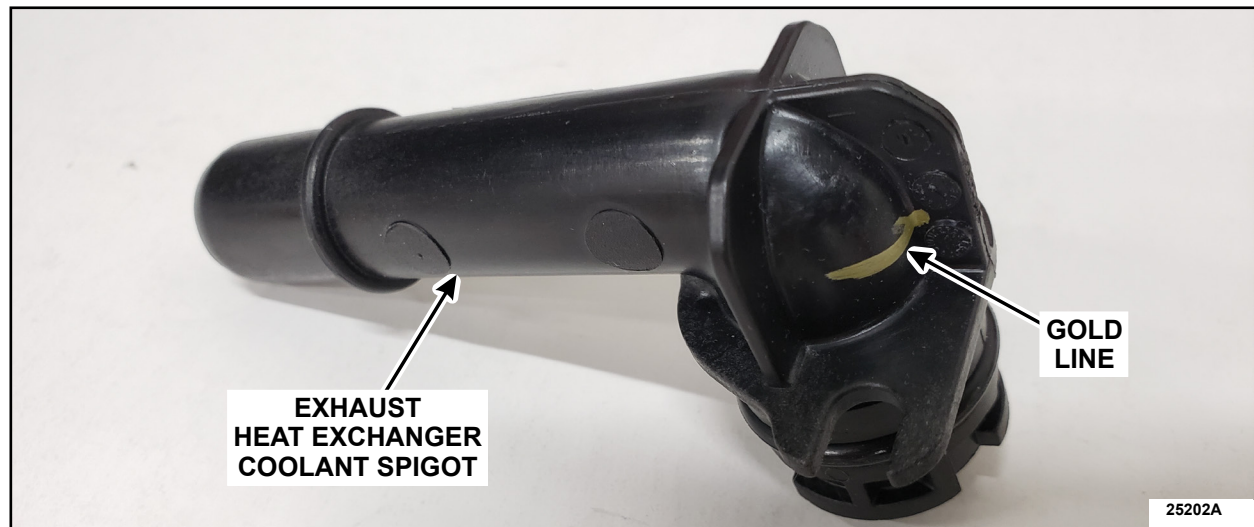

FIGURE 1
2. Visually inspect the *new* exhaust heat exchanger coolant spigots for a gold line marking. The gold line marking indicates the correct part(s) for installation. If the spigots do not have the gold line marking, do not use these parts and order new spigots. See Figure 1.